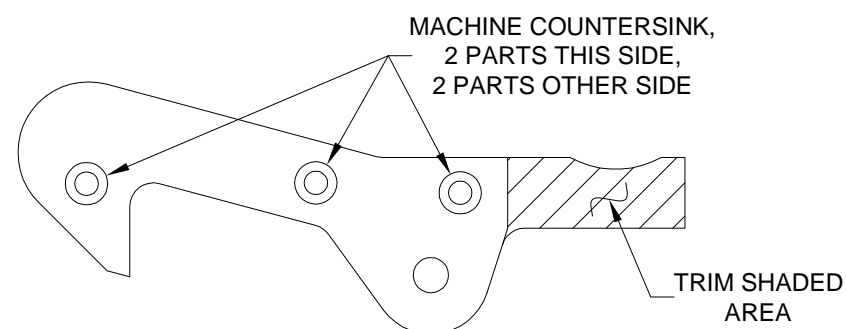

FIGURE 1: SAFETY LATCH LAMINATION TRIM & COUNTERSINK
Step 3: Trim the "tail" off four of the safety latch laminations as shown in Figure 1.
Machine countersink the 1/8 inch holes in each of the "tailless" safety latch laminations to fit the head of an AN426AD4 rivet. Countersink two parts on the left side and countersink the other two parts on the right side as called-out in Figure 1.